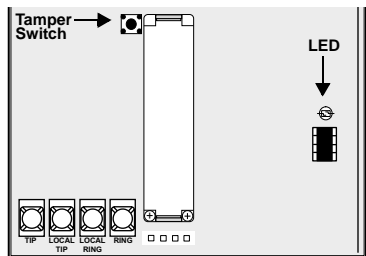

Figure 10. DTIM Tamper Switch and LED Locations
4. Locate the DTIM tamper switch and LED (see Figure 10).